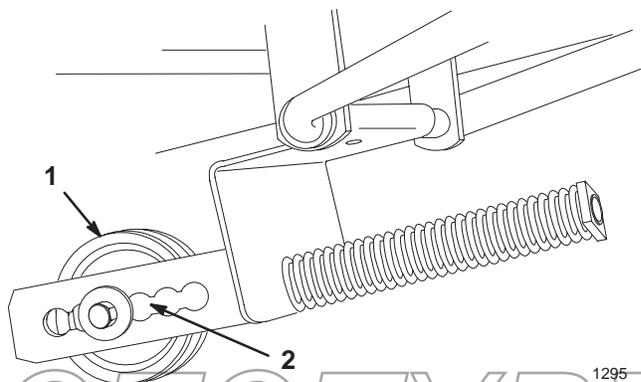

Figure 33
3. Remove the nut, washer, and fixed idler from the idler assembly and relocate them in the next hole position to change the belt tension as required. (Fig. 33).